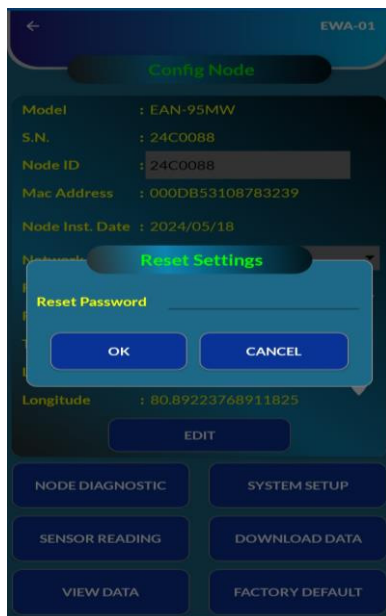

Figure 6-17 Reset settings to factory default
- To reset the node, click on the “FACTORY DEFAULT” tab from “Config Node” screen (figure 6-7 (a)). A prompt window asking for reset password will appear as shown in figure 6-17.